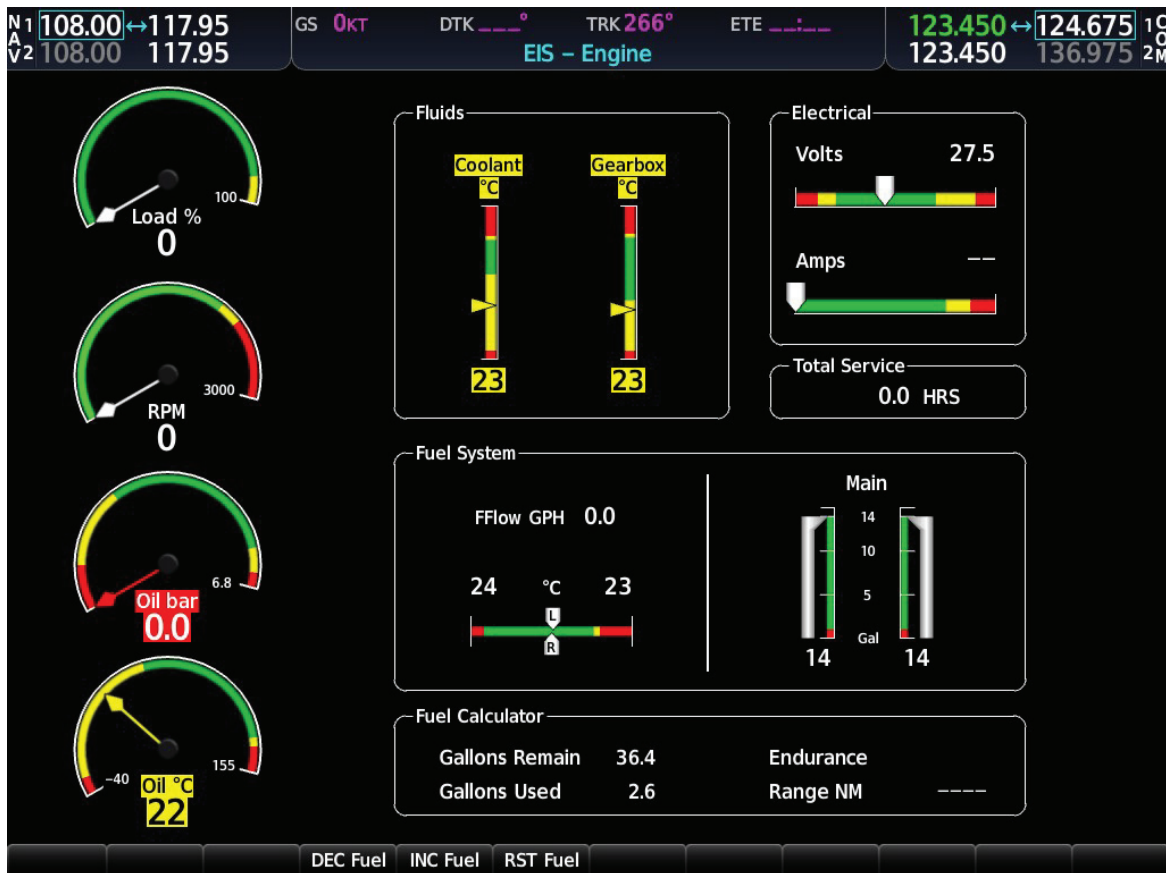

Figure 4 : MFD Full EIS Page
- If MÄM 40-868 is installed, pressing the ENGINE softkey at the bottom of the MFD will change the display of the MFD to a full engine indication system page, as shown in Figure 4.